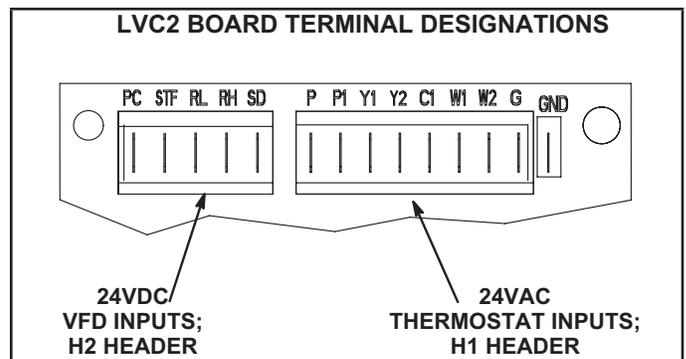

FIGURE 48
- 3 - Check for 24VAC signal at the thermostat blower input (G to GND terminal). See FIGURE 48.